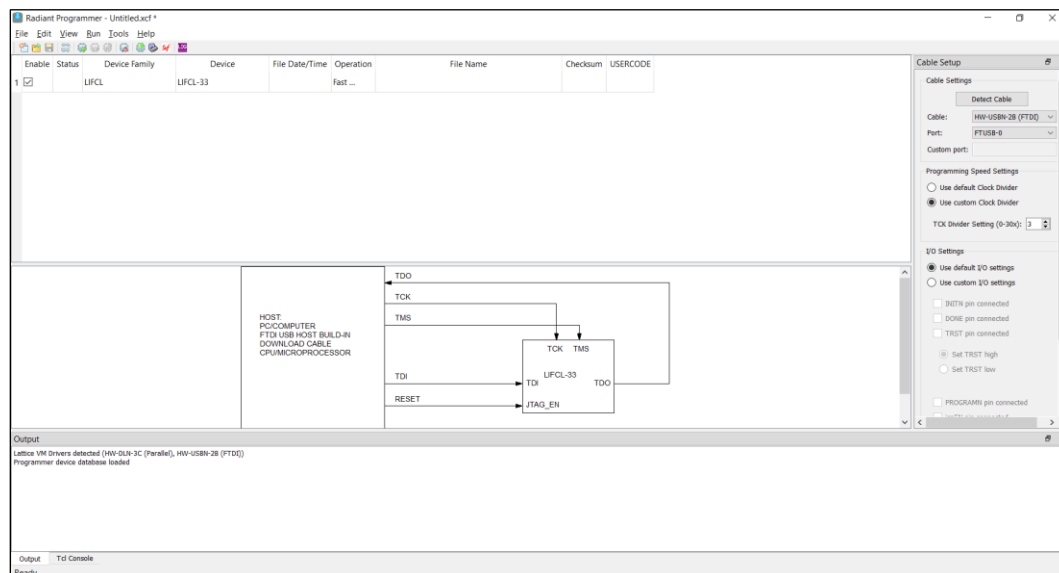

Figure 2.3. Lattice Radiant Programmer Main Window
3. Select **Create a new project from a scan**, click **OK**. Figure 2.3 is displayed.